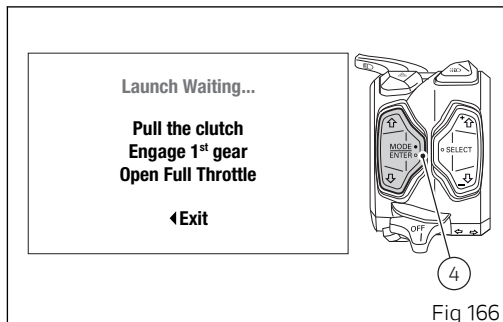

Fig 166
Once the DPL level is set, the instrument panel shows the wait screen for 1 second (Fig 166): during this time, if you press button (4) the wait phase is interrupted and the instrument panel displays the main screen and sets the DPL to OFF.